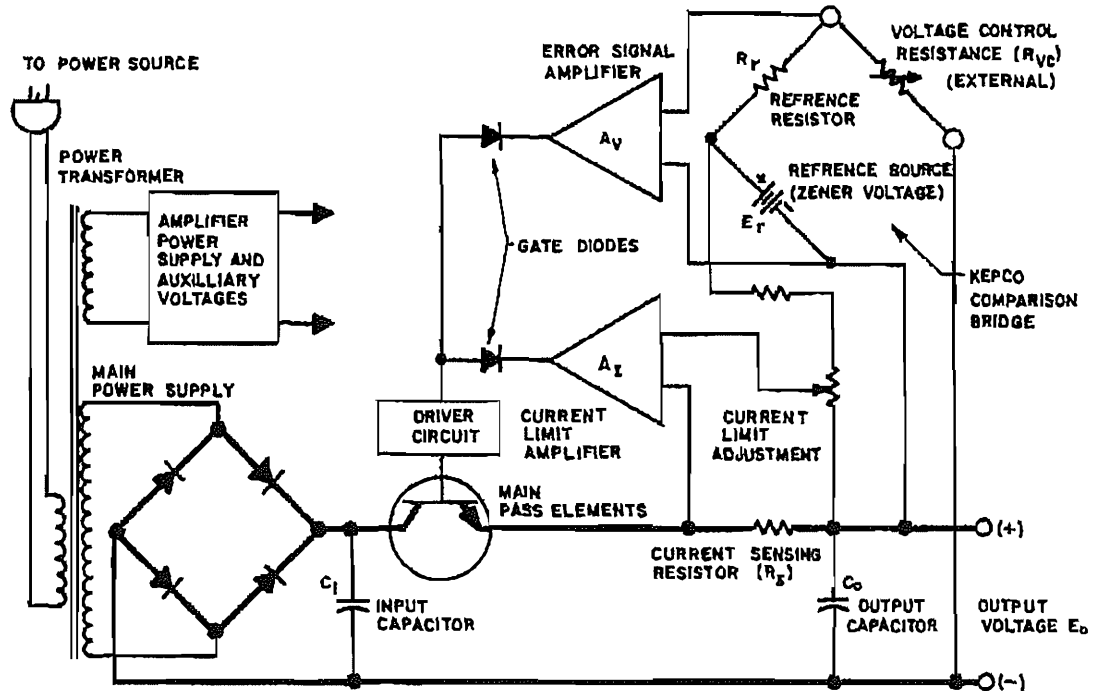

FIG. 4-1 SIMPLIFIED DIAGRAM, PAT POWER SUPPLIES.
(References in CAPITAL LETTERS refer to the nomenclature used in FIG. 4-1.)
4-1 SIMPLIFIED DIAGRAM DISCUSSION. (Refer to FIG. 4-1.)
- a) A-C INPUT CIRCUIT. A-C input power is introduced through rear barrier-strip TB 1, terminals (1) and (2). Terminal (3) is connected to the chassis and should always be returned to a-c ground. The fuse (F1) protects the primary of the power transformer (T201) from excessive current. T201 has two primary windings which are connected either in parallel (for 115V a-c service) or in series (for 230V a-c service).
- e) THE COMPARISON BRIDGE. This 4-arm electrical bridge circuit is the regulating and controlling element in many Kepco Power Supplies. In the PAT models it consists of the reference voltage E_r (CR8), the reference resistor R_r (R15 and the optional bridge current adjustment rheostat R16), the voltage control resistance R_{VC} [either the optional internal control R13 or the resistor externally applied between terminals (11)-(12) on TB1], and the output voltage E_o . As shown in FIG. 4-1, the internal reference voltage E_r in series with the reference resistance R_r is continuously compared with the output voltage E_o in series with the voltage control resistance R_{VC} . At balance ($E_{AA'} = 0$), a constant bridge current I_b flows through the bridge, keeping the error signal at bridge terminals A-A' at approximately zero volts. Any deviation in E_o caused by a-c source, load variations, or other influences will tend to change I_b in the bridge circuit and thereby produce an error signal at the bridge terminals A-A'. This error signal is then amplified by the error signal amplifier A_V and acts as a control signal for the series regulator or pass element changing the voltage drop across it in such a way as to restore the previous output voltage level.